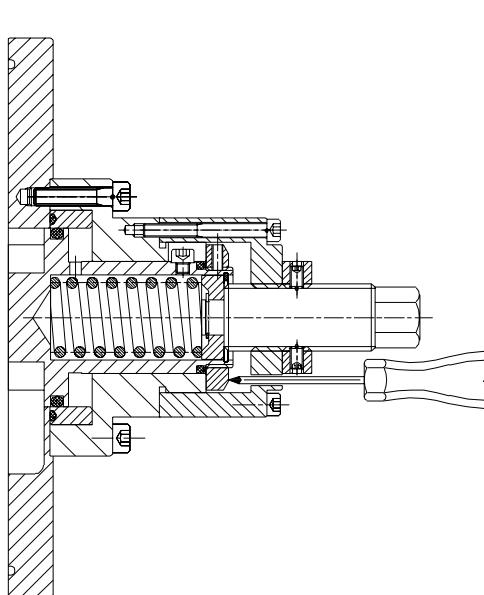
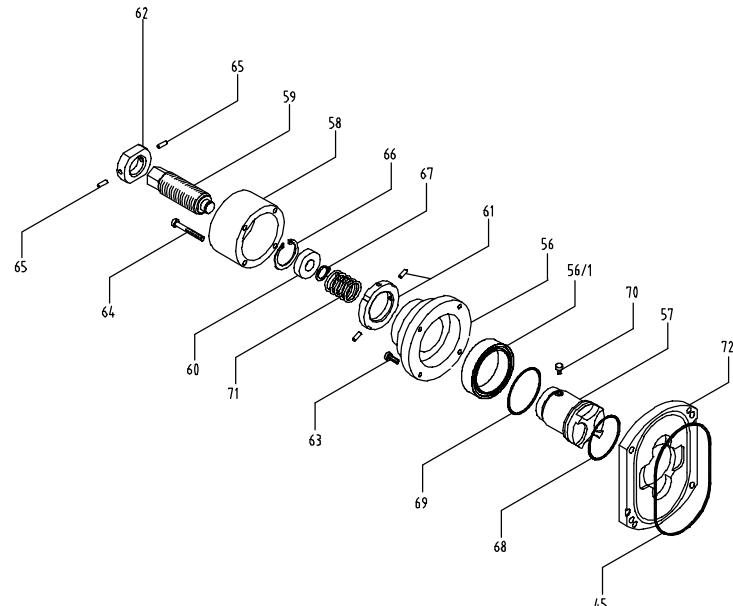

Fig.3.1
Fig.3.2 Relief valve and manual by-pass valve
3.6.2 - Adjustment of the internal relief valve fig. 3.2
- 2 - Tighten the adjusting screw (59) by gradually putting the spring under pressure, checking that the pressure at the outlet port of the pump does not exceed the maximum allowed pressure.
- 3 - By operating the adjusting screw and checking with a probe (see fig.3.1), find the critical opening point of the valve at the desired pressure.
- 5 - Position the adjustment retainer (62) and lock it with the special screw (65).